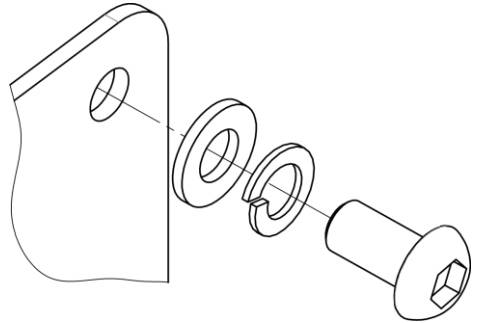

Figure 3. Washers on the screw
- 5.4.2. Connect the units with four plates. A plate requires four screws, each with a washer and a lock washer on it (fig. 3). Fix the screws tightly.
- 5.5.2. Attach the left and the right legs to the base unit. A leg requires four screws, each with a washer and a lock washer on it (fig. 3). Fix the screws tightly.
- 5.5.6. Connect the units with four plates. A plate requires four screws, each with a washer and a lock washer on it (fig. 3). Fix the screws tightly.
- 5.5.9. Connect the units with four plates. A plate requires four screws, each with a washer and a lock washer on it (fig. 3). Fix the screws tightly.